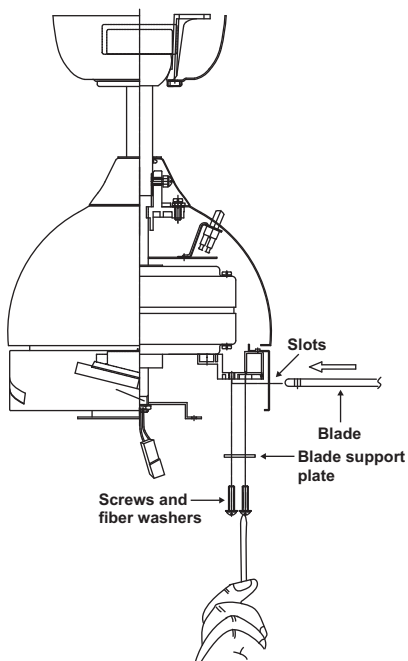

Figure 14
Step 1. Insert the blade through the slot on the motor housing. Align the holes in blade and blade bracket, place the blade support plate on blade as showing in Figure 14, making sure the holes are also aligned and secure with fiber washers and screws provided.